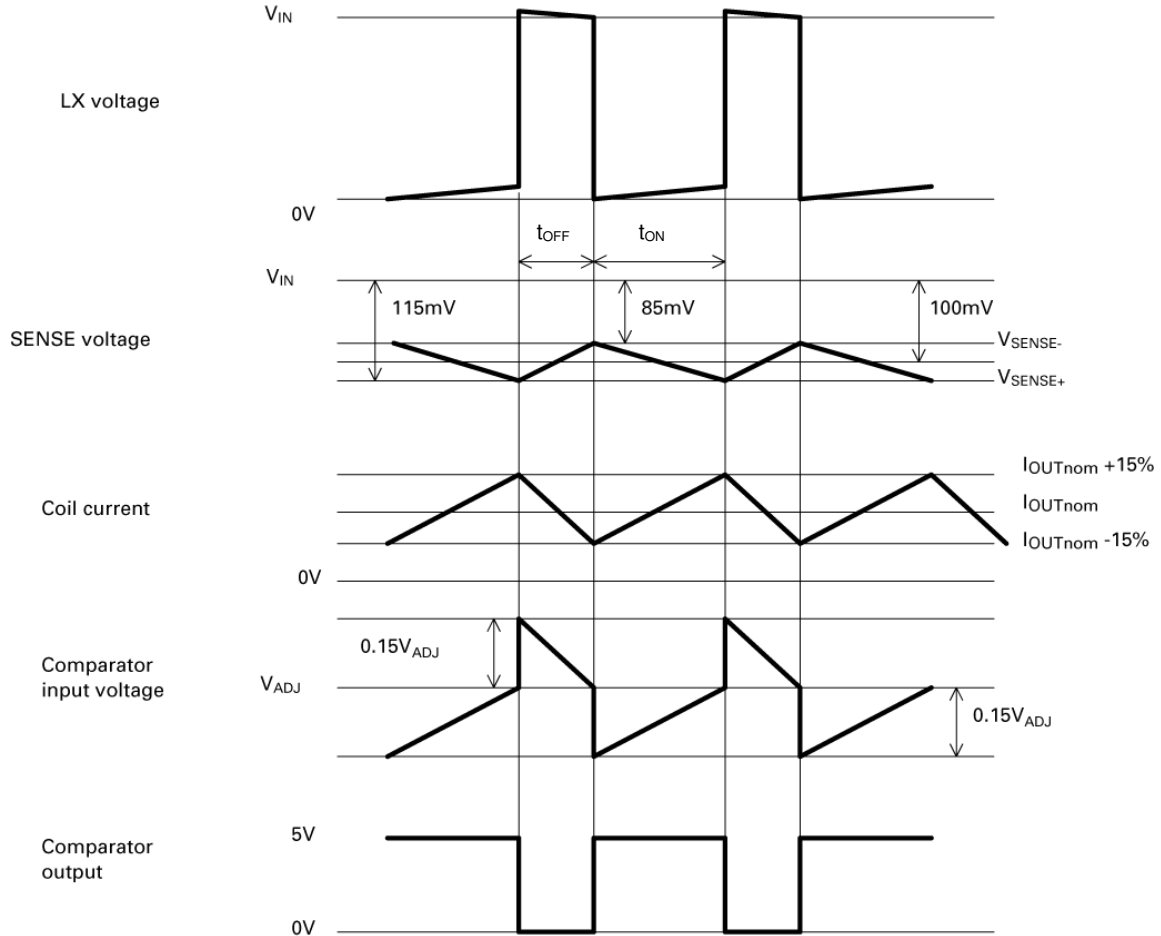

Figure 1. Theoretical Operating Waveforms
**Device Operation** (Refer to block diagram and Figure 1 - Operating waveforms)